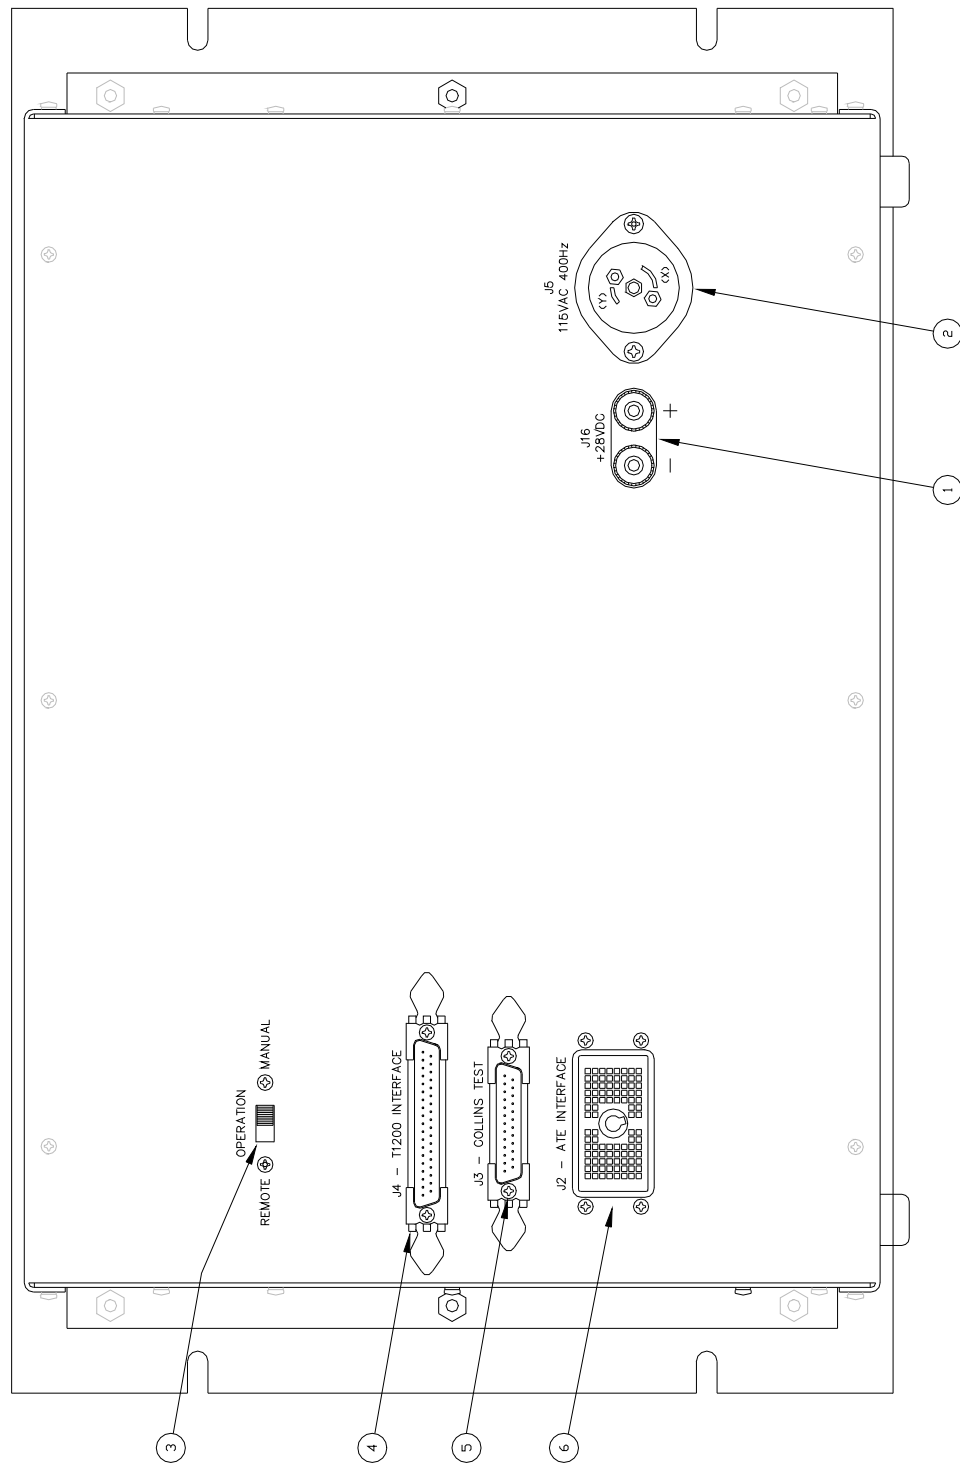

Fig. 3-2 ; T1201 Controls – Rear Panel
3.2.2 CONTROLS – REAR PANEL (Fig. 3-2)